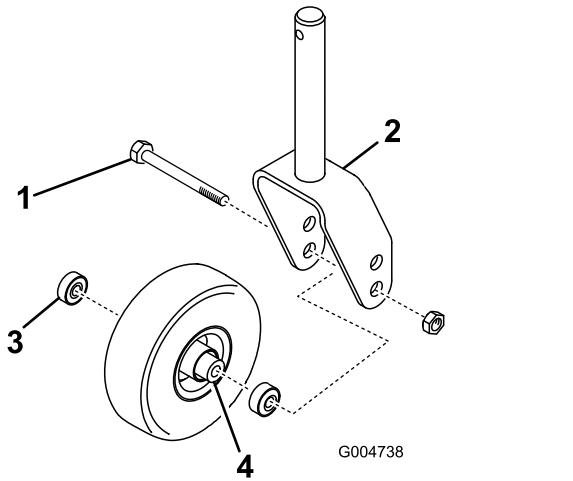

Figure 108
1. Remove the locknut from the bolt holding the caster-wheel assembly between the caster fork or the caster-pivot arm (Figure 108).
2. Grasp the caster wheel and slide the bolt out of the fork or pivot arm (Figure 108).
3. Remove the bearing from the wheel hub and allow the bearing spacer to fall out (Figure 108).
4. Remove the bearing from the opposite side of the wheel hub (Figure 108).